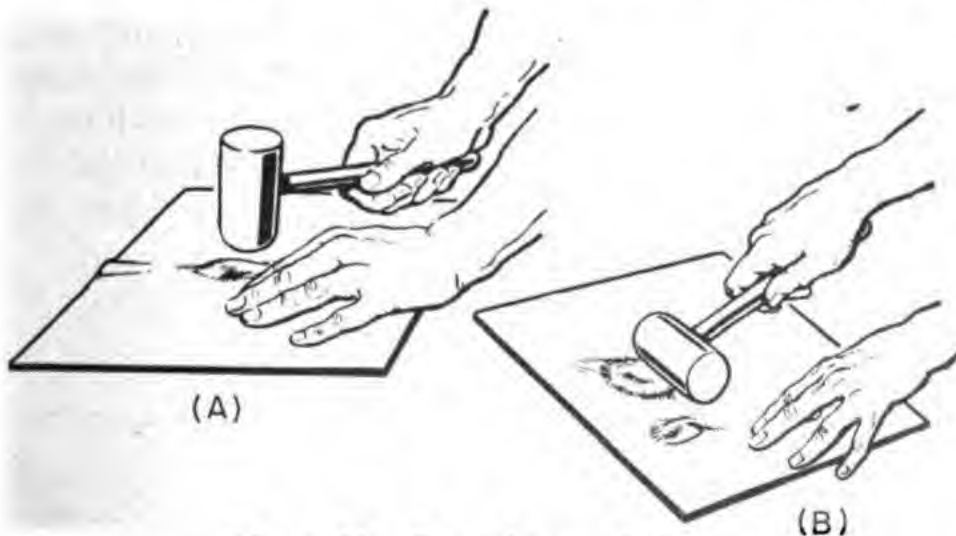

Figure 51.—Removing small dents.
It is a good idea to plan your strategy carefully before you start to hammer out a dent. If the dent is small, put the CONCAVE side of the damaged surface on a metal stick or hardwood block. Hammer the dent lightly with a flat-face wooden mallet. Start hammering around the edge and gradually work toward the center of the dent as in (A) of figure 51. Be as economical as you can with your hammer blows, because each blow stretches the metal a little.
If you have a large buckle to repair, the best way to do it is to place the surface of the part on a hardwood backing block. PRESS the metal back into place instead of hammering it. Start at the edges of the dent and press and roll the metal, holding your mallet in the position shown in (B) of figure 51, gradually work in toward the center from the edges.